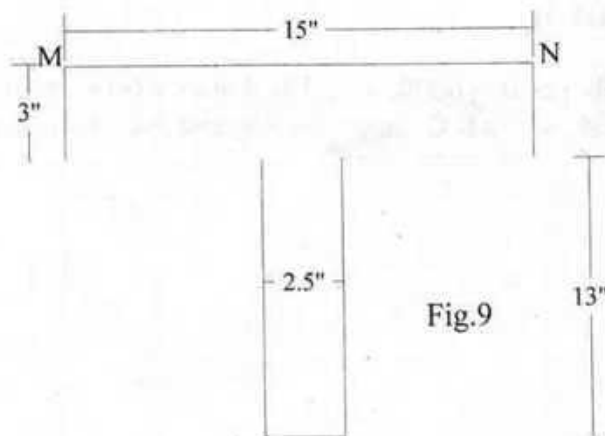

Fig.9
9. In designing a beam, the moment of inertia of a section of the beam about a centroidal axis is needed. Find the moment of inertia of the T-section shown in fig 9 about a centroidal axis parallel to MN.